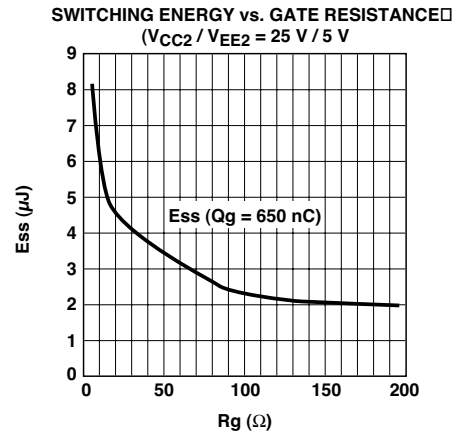

Figure 77. Switching energy plot for calculating average P_{switch} (for ACPL-516x output driving an IGBT rated at 600 V/100 A).
2. Calculate total power dissipation in the part referring to Figure 77. (Average switching energy supplied to ACPL-516x per cycle vs. R_G plot);
For $R_G = 10.5$, the value read from Figure 77 is $E_{SWITCH} = 6.05 \mu\text{J}$. Assume a worst-case average $I_{CC1} = 16.5 \text{ mA}$ (which is given by the average of I_{CC1H} and I_{CC1L}). Similarly the average $I_{CC2} = 5.5 \text{ mA}$.